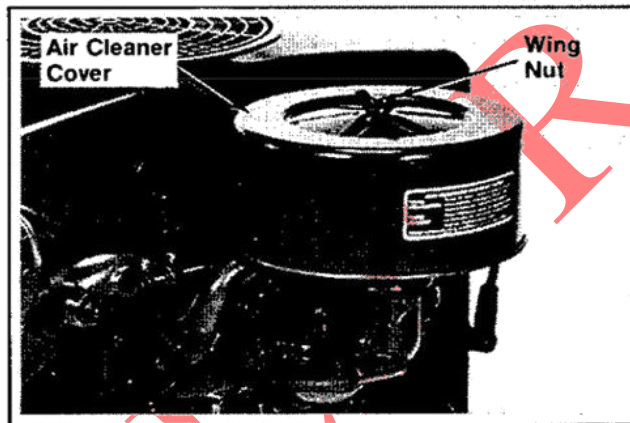

Figure 9-3. Removing Air Cleaner Cover.
1. Remove the wing nut and air cleaner cover. Refer to Figure 9-3.